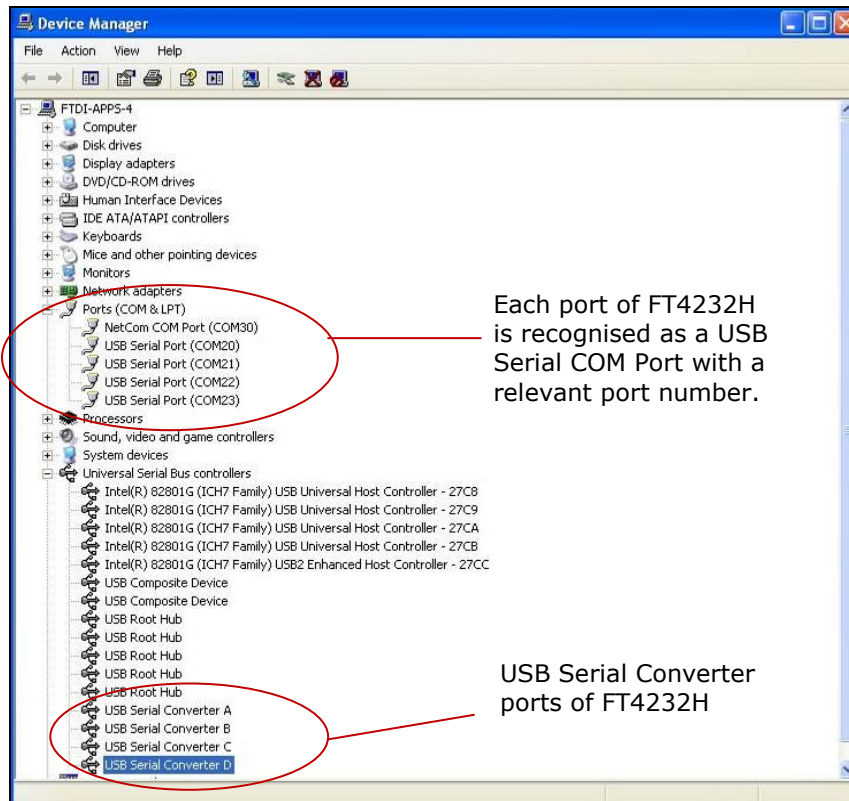

Figure 7.6 : Device Manager Screen
6. To verify that the drivers have been installed successfully, open the Device Manager located in "Control Panel\System" then select the "Hardware" tab and click "Device Manger") and select "View > Devices by Connection". Each FT4232H port should appear as a "USB Serial Converter" under the "USB Serial Bus Controllers". Further under the "Ports" section four "USB Serial Ports" should be listed, as per Figure 7.6.